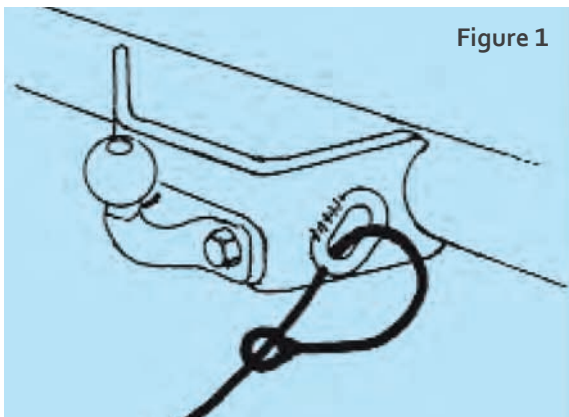

Figure 1
a) Pass the cable through the attachment point and clip it back on itself (Fig. 1),